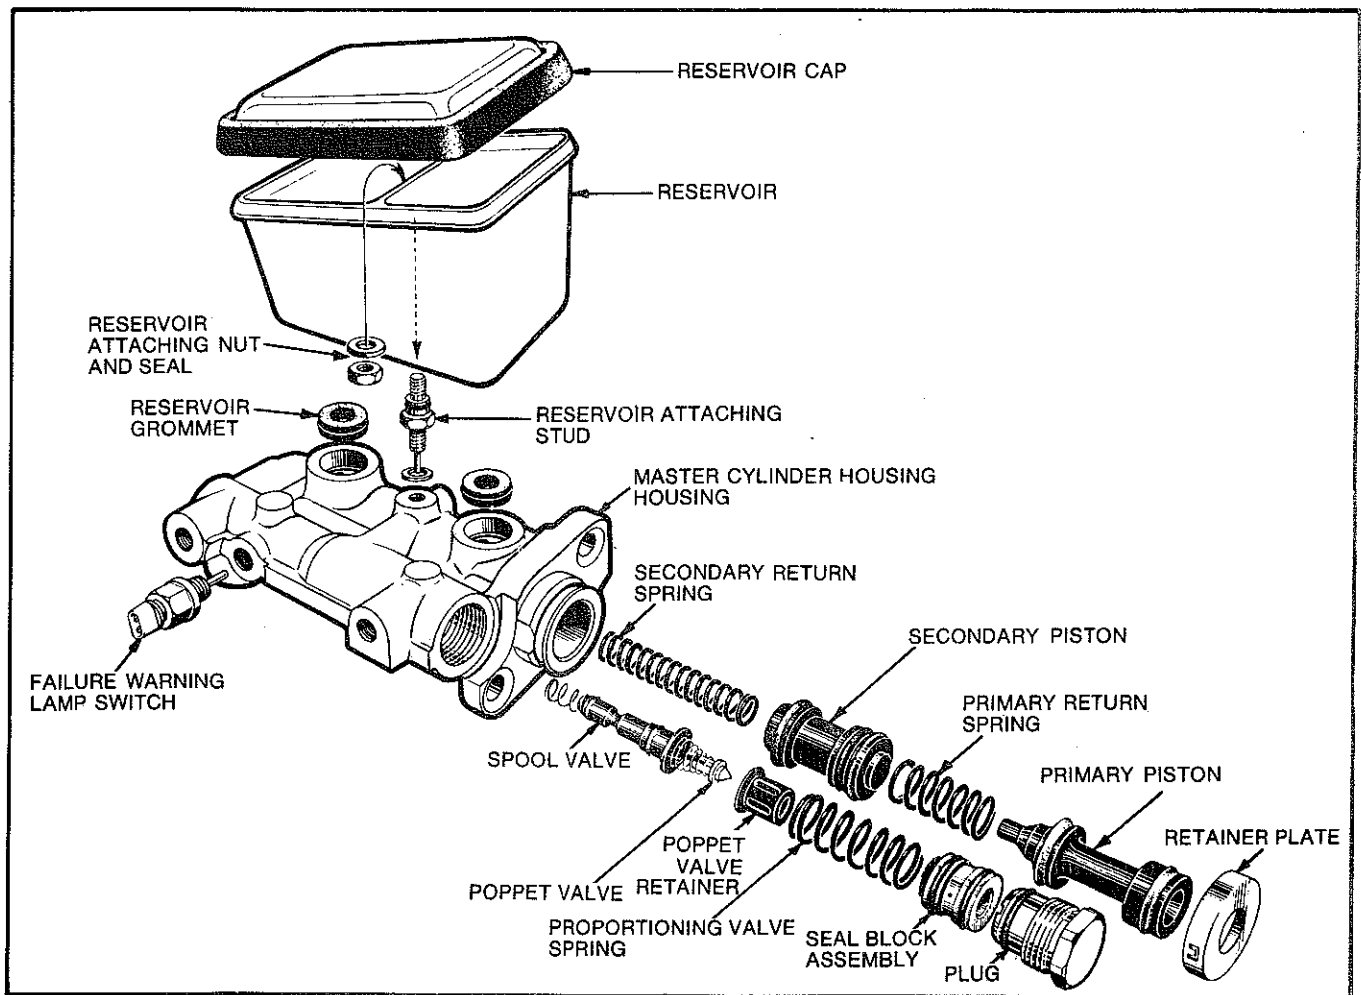

Fig. 2—Disassembled view of master cylinder
(1) Before assembly, lubricate all parts (see note) and master cylinder bores with clean brake fluid.
(2) Install "O" ring seal into the smaller of the two grooves at the end of the secondary piston.
(3) Install one of the three identical cup seals into the second groove, ensuring that the seal lip faces away from the "O" ring seal (refer Fig. 2).